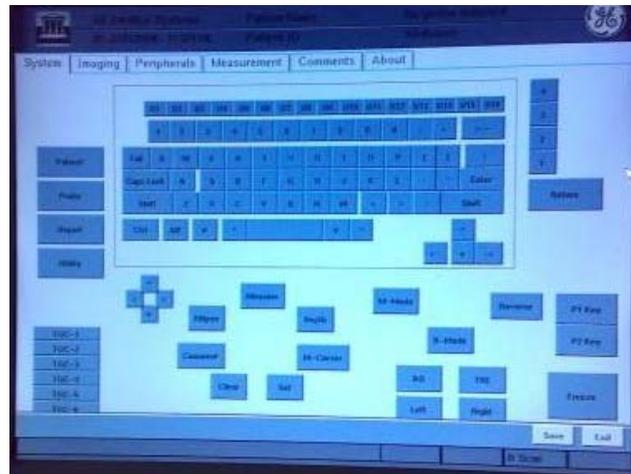

Figure 7-12 Keyboard test screen
- 5.) **Error Log:** Press "Error Log" Button from the Service Diagnostics main Screen (Refer figure 7-12).